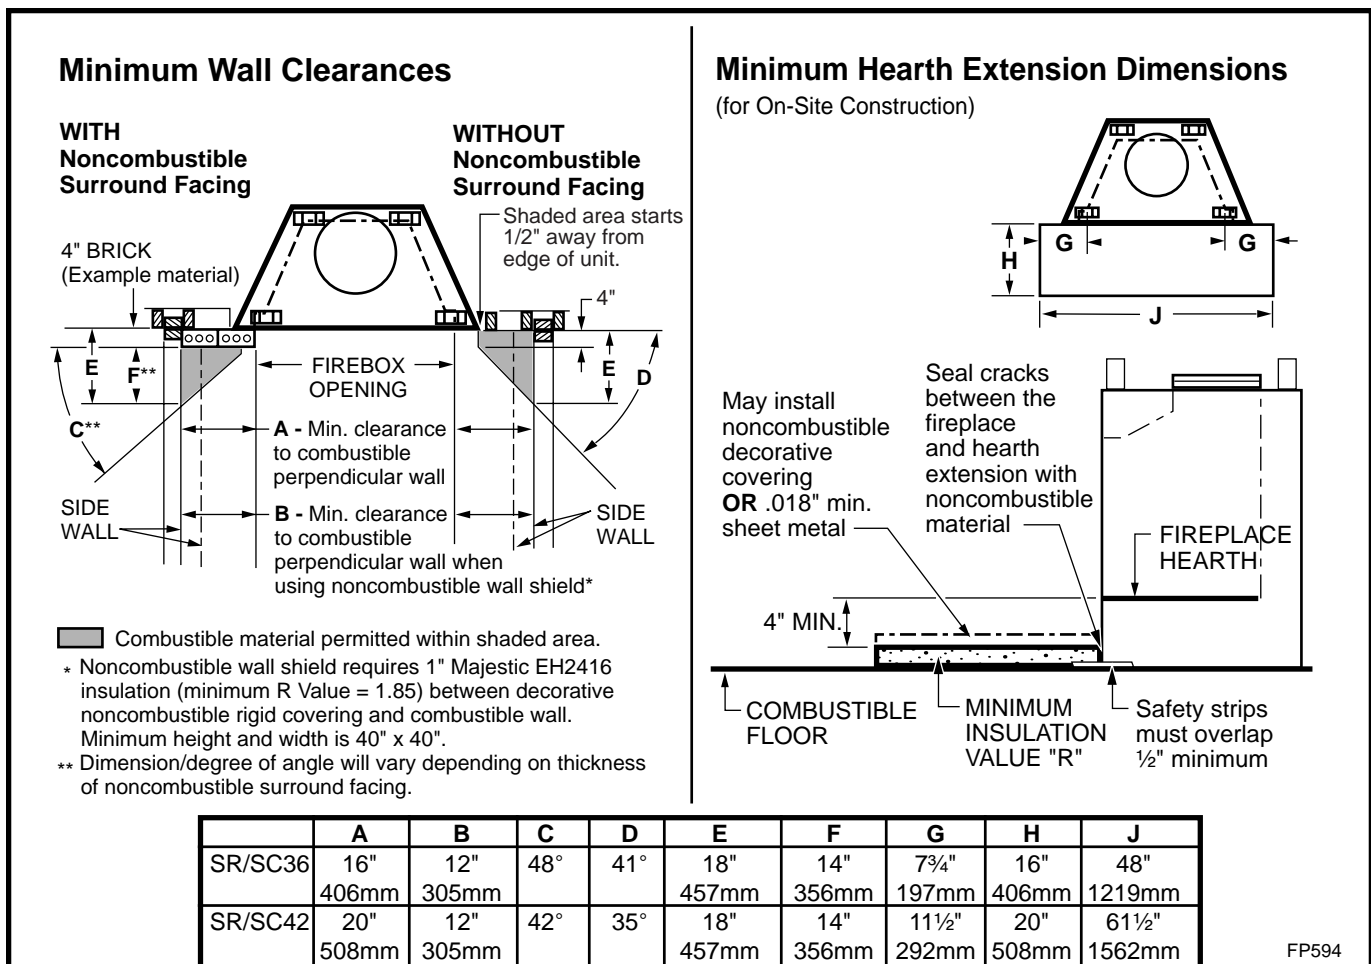

Fig. 23 Combustible side wall protection and hearth extension dimensions.
Often a decorative surround or vertical portion of the mantel is desired. If this is constructed of any combustible material it must be within the safe zone indicated in Figure 23.
Adjacent combustible side walls that are within the minimum dimensions shown in Figure 23 of fireplace opening must be protected with Vermont Castings, Majestic Products Wall Shield Model SP40 or a specifically built wall shield described below.
A hearth extension is required to protect a combustible floor in front of the fireplace. Refer to Figure 23 for minimum dimensions and mounting detail.
The hearth extension described in Figure 23 must be a durable non-combustible material with a minimum (total) Rt value of 1.09; see Figure 24 for examples. The overall height (above a combustible floor), depth and width must be as indicated, with the extension centered to the fireplace opening.
The top of insulation must be covered with a non-combustible decorative covering or a piece of .018" minimum sheet metal, to protect hearth extension material. (Fig. 23)
Secure the hearth extension to the floor to prevent shifting, using trim molding or other similar means at three (3) outer edges. Seal crack between the fireplace hearth and hearth extension with a non-combustible material. (Figs. 23 and 25)
WARNING: HEARTH EXTENSION MUST BE INSTALLED IN ACCORDANCE WITH FIGURE 23 AND MUST NOT COVER THE BOTTOM FRONT OPENING OF THE CIRCULATING MODEL.